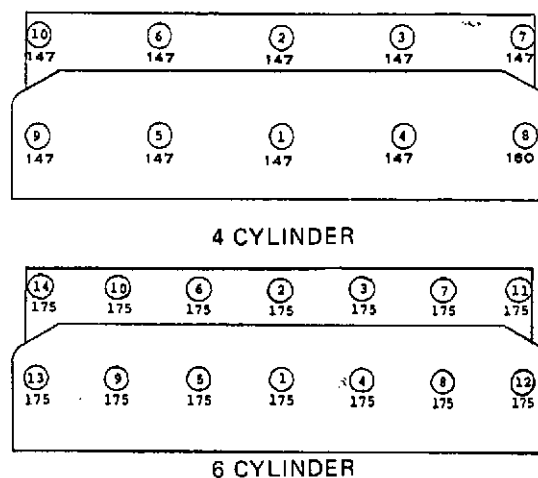

Figure 5-23. Cylinder Head Nut Tightening Sequence and Torque Values
6. Install the cylinder head nuts (27 and 29) and washers (28 and 30). Tighten evenly, working from the center of the head outward. Refer to figure 5-23 for tightening sequence, torque, and procedure for tightening cylinder head to cylinder block. Tighten all nuts first to 75 foot-pounds torque in the sequence indicated, then to 125 foot-pounds torque, then to the final torque indicated in figure 5-23.
3. After all the valves have been adjusted, install the cylinder head cover and gasket. Start the engine and allow it to warm up to operating temperature. When it is warm, let the engine run for one hour, under load if possible, then shut it down and retorque the cylinder head nuts as shown in figure 5-23.